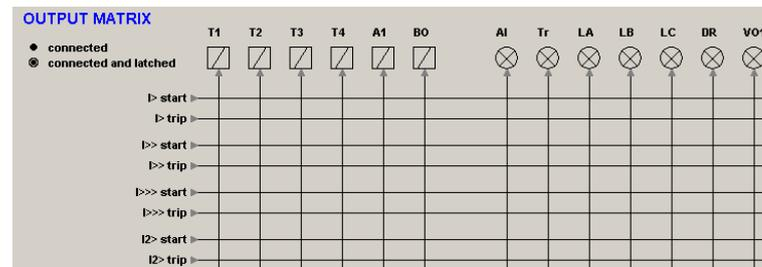

Figure 8.1: Output matrix.
There are two LED indicators named "Alarm" and "Trip" on the front panel. Furthermore there are six general purpose LED indicators – "A", "B", "C", "D", "E" and "F" – available for customer-specific indications. In addition, the triggering of the disturbance recorder (DR) and virtual outputs are configurable in the output matrix. See an example in Figure 8.1.